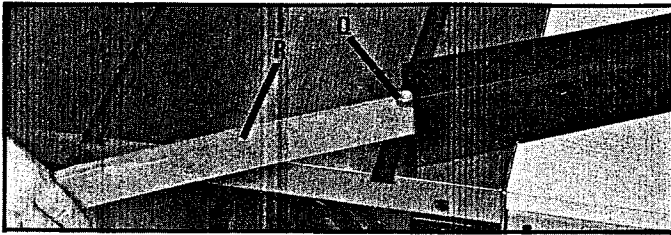

Fig. 28
11. Insert cardboard template (R) into channel in end of guide rail, as shown in Fig. 28, until the two nuts one of which is shown at (Q), line up with the second and fourth holes in the guide rail.